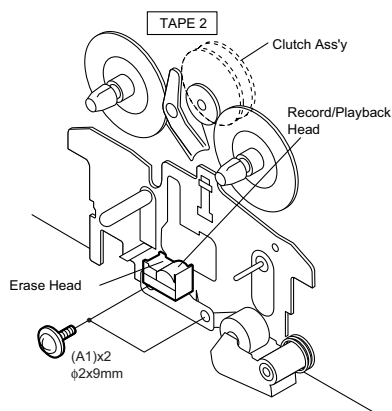

Figure 1
1.1. How to remove the record/playback and erase heads (TAPE 2) (See Fig. 1)